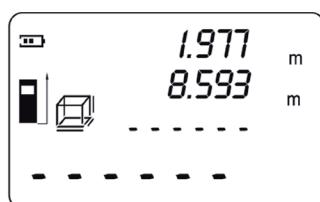

Fig. 13
6. Press the Read button again to display the width on the second line of the screen. The line for the height in the symbol will start to flash (fig. 13).